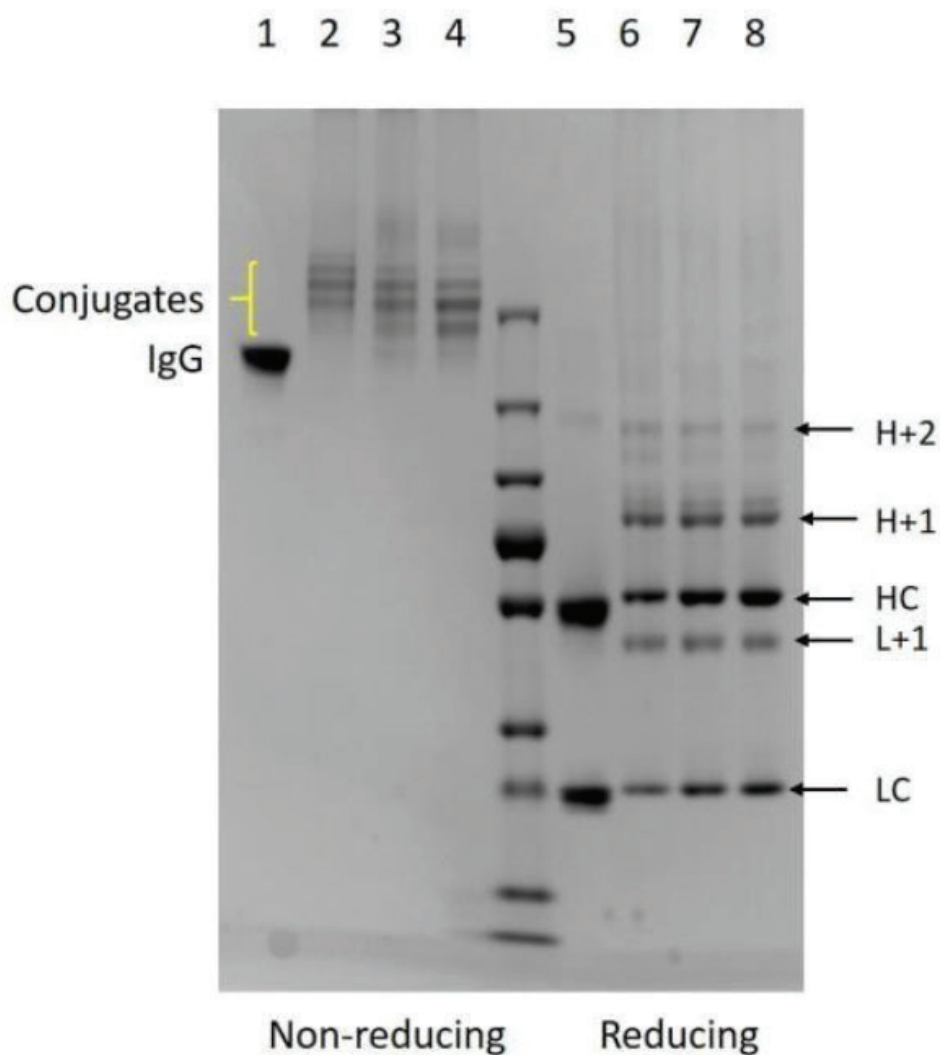
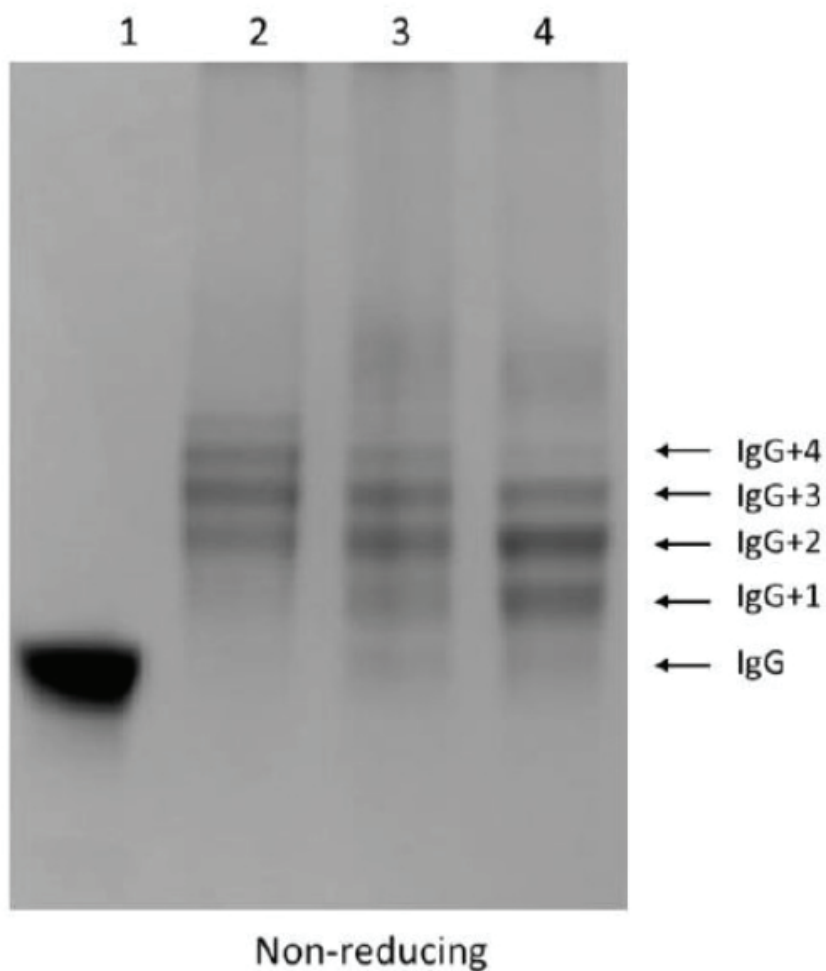

Fig 2.
Fig 3.
12.4. Discrete conjugate bands are more commonly seen with monoclonal antibodies and with lower loadings than those used above. In Fig. 2, Tracks 2 and 6 were loaded with 2  $\mu\text{g}$  of conjugate produced under non-reducing or reducing conditions. At this lower loading, the H+2 band is still visible but H+3 (not labeled
on Fig. 2) is faint. On the non-reducing gel, the number of oligos attached to IgGs is readily determined. Further commentary and details of the other samples (Tracks 3, 4, 7 and 8) are given below. A magnified view of the IgG conjugates in Fig. 2 is shown in Fig. 3.
12.5. In Fig. 3, track 2 shows no free IgG and very little IgG with 1 oligo attached. Mostly there are 2-5 oligos per IgG (IgG+5 is not marked by an arrow above). In tracks 3 and 4, the conjugation reactions comprised, respectively, 20  $\mu$ g in 10  $\mu$ L and 20  $\mu$ g in 20  $\mu$ L. Not surprisingly, the labeling
12.6. The differences among the samples under reducing conditions (Tracks 6, 7 and 8, Fig. 2) are less pronounced and the main observation is increasing H or L chain intensity as conjugation efficiency is reduced. For each application, it may be necessary to determine the gel profile that is associated with best assay performance, and non-reducing gels are generally more useful.